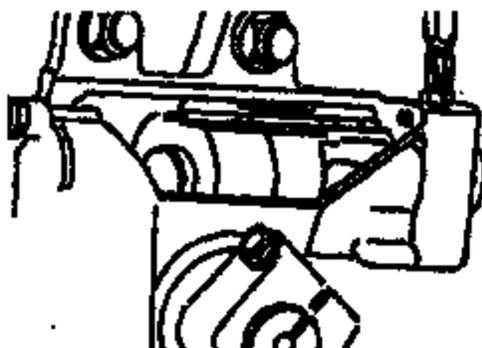

Figure 22
- To set the poppet, turn the steering wheel in the opposite direction (end of timing mark away from adjusting screw) until the other axle stop is contacted. Pull hard on the steering wheel (**30 Lbf (133 N)** pull on a 20" steering wheel). Release the steering wheel and shut off the engine (Figure 22).